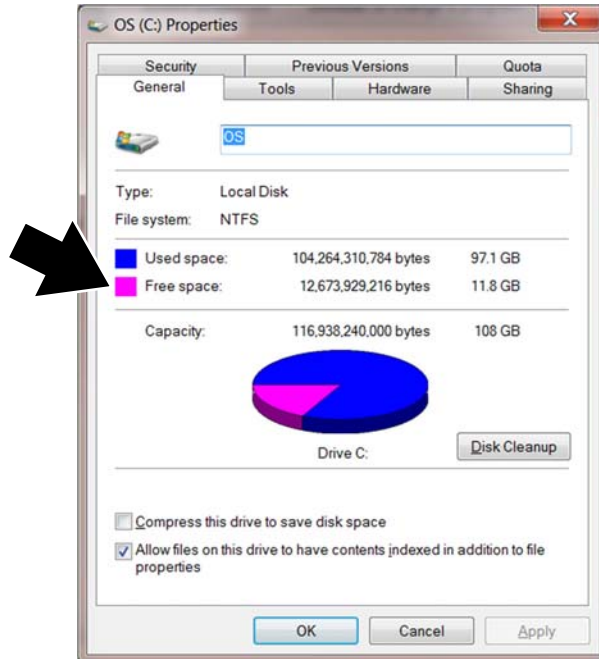

Figure 4-1 Typical PC hard drive free space details
2. Select your local drive, or the drive where the SSC software will reside and select **Properties** or **View > Details** (Figure 4-1).